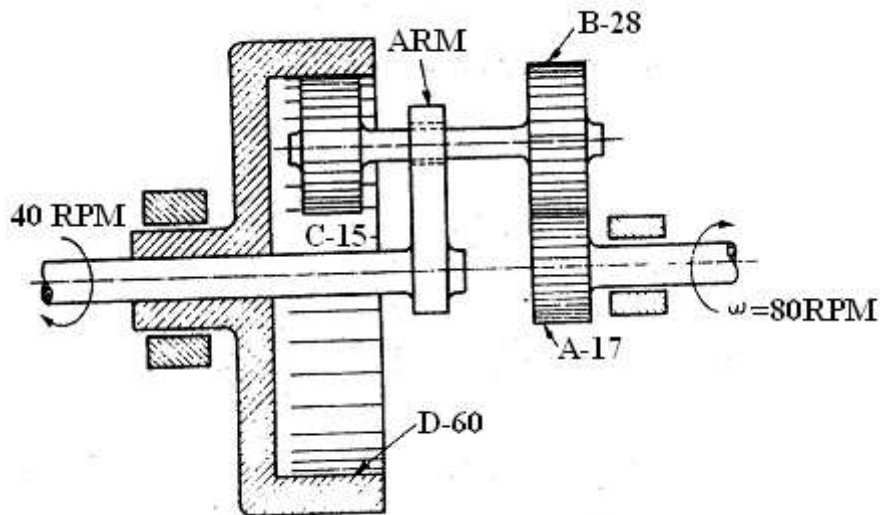

Figure 1:
- Fig.1 shows a compound epi-cyclic train. The number of teeth are shown in the figure 1. The arm is given an input velocity of 40rpm in counter - clockwise direction and the gear A is driven clockwise 80rpm. Determine the speed of ring gear 'D' and the fundamental basic gear train ratio.